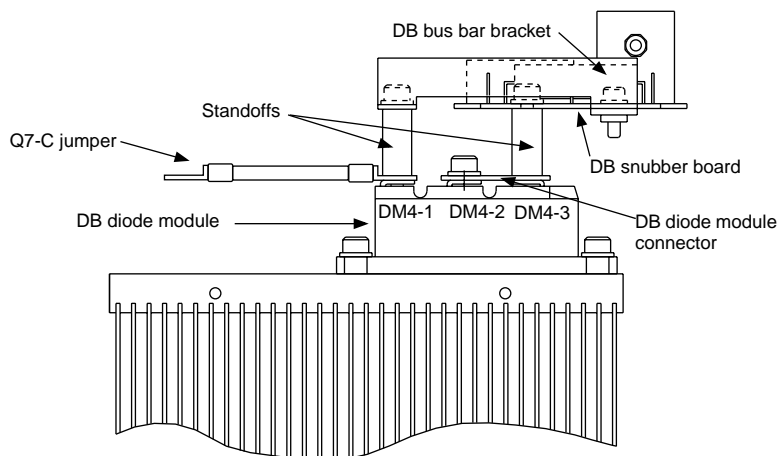

Figure 4.1.20: Side View of DB Module
6. Using a drive socket, remove the two standoffs. Pull the Q7-C jumper back out of the way (see Figure 4.1.20 on page 4.1.45).
7. Using a hex key wrench, remove the screw from the DM4-2 terminal of the DB diode module (see Figure 4.1.20). Pull the DM4-2 cable back out of the way and remove the DB diode module connector (see Figure 4.1.20).
8. Using a hex key wrench, remove the two DB diode module screws. Using a flat blade screwdriver, gently pry loose the diode module (see Figure 4.1.20). Be careful not to damage the surface of the heatsink.
2. Place the new diode module on the heatsink with R11 terminal toward outer edge of controller and align the mounting holes. Using a torque wrench with hex key socket, install and tighten the two diode module mounting screws (see Figure 4.1.20). Initially tighten to 6.0–9.0 lb-in (0.7–1.0 N•m) and then to a final torque of 35.4 lb-in (4 N•m).
3. Align the DB diode module connector over the DM4-2 and DM4-3 mounting holes in the DB diode module. Align the DM4-2 cable over the DM4-2 mounting hole (see Figure 4.1.20). Using a torque wrench and a hex key socket, install and tighten the mounting screw in DM4-2 mounting hole to 17.7 lb-in (2 N•m).